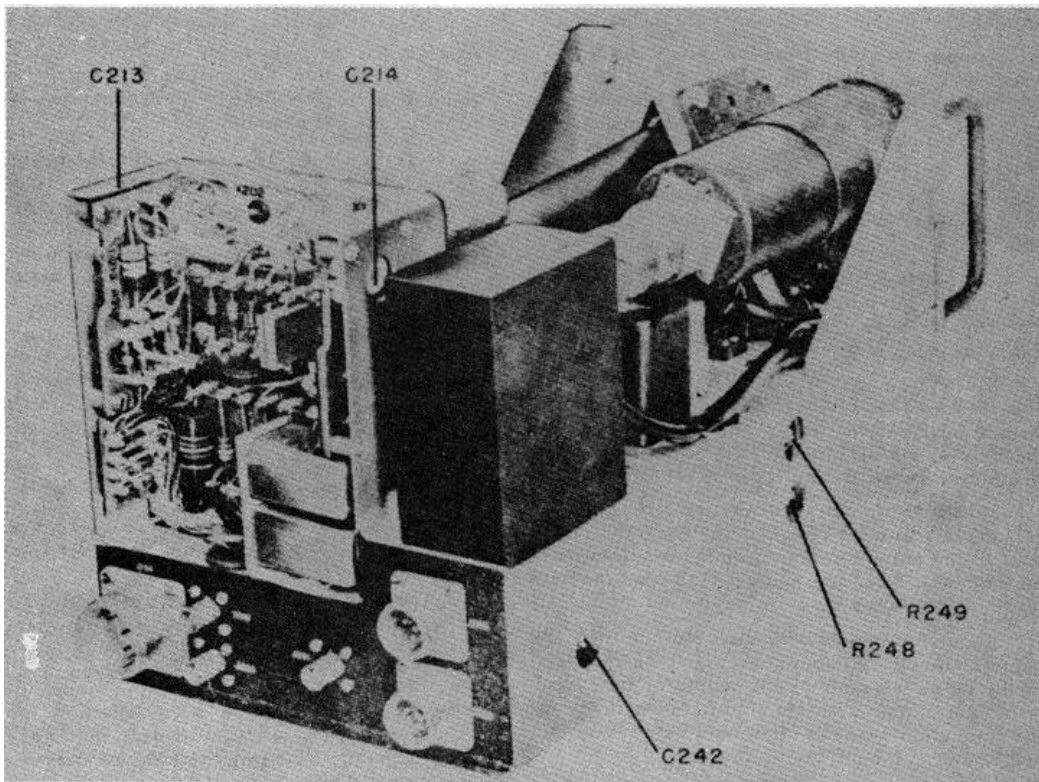

Figure 9-4. Azimuth Indicator IP-36/APA-69, Internal Controls
b. Rotate the spindle until the trace is vertical at 360 degrees azimuth. Without changing the output level of the pulse generator, adjust the "circularity" potentiometer R242 (see figure 9-4) to reset the trace length to 1.2 inches.
e. Turn the "ANT. SPEED" control counterclockwise to "OFF". With the trace length 1.2 inches, rotate the spindle by hand to observe the trace for a loop at 45, 135, 225 and 315 degrees azimuth. If any loop is observed, set the trace at the point of maximum loop and adjust the "phase corrector" trimmer capacitors C213 and C214 (see figure 9-4) until a loop of minimum width (or a straight line) is obtained. Continue to check and adjust until all disphase is minimized. Maximum loop must not exceed 1/16 inch.
a. Check the azimuth dial operation by rotating the test autosyn needle by hand clockwise. If the indicator dial oscillates more than two or three times before stabilizing reduce the torque unit gain control R248 (see figure 9-4) slightly. If the dial is sluggish, advance this gain control slightly.